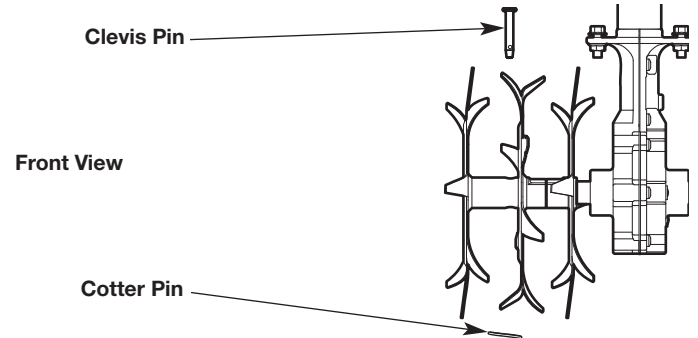

Fig. 12
1. Remove the cotter pin from the clevis pin (Fig. 12). Remove the clevis pin from the double tine and tine shaft.
3. Insert a clevis pin through the aligned holes (Fig. 12). Insert a cotter pin into the clevis pin.